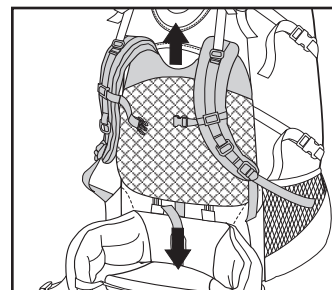
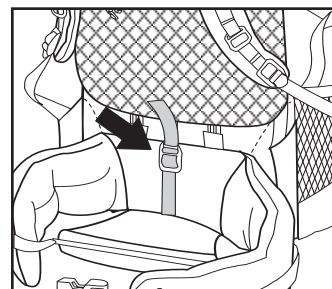

Figure 2F
Figure 2G
- II. Loosen vertical strap on the yellow webbing (Figure 2F) and then slide the shoulder panel into the correct position by pulling up on the shoulder straps or down on the yellow webbing (Figure 2G).